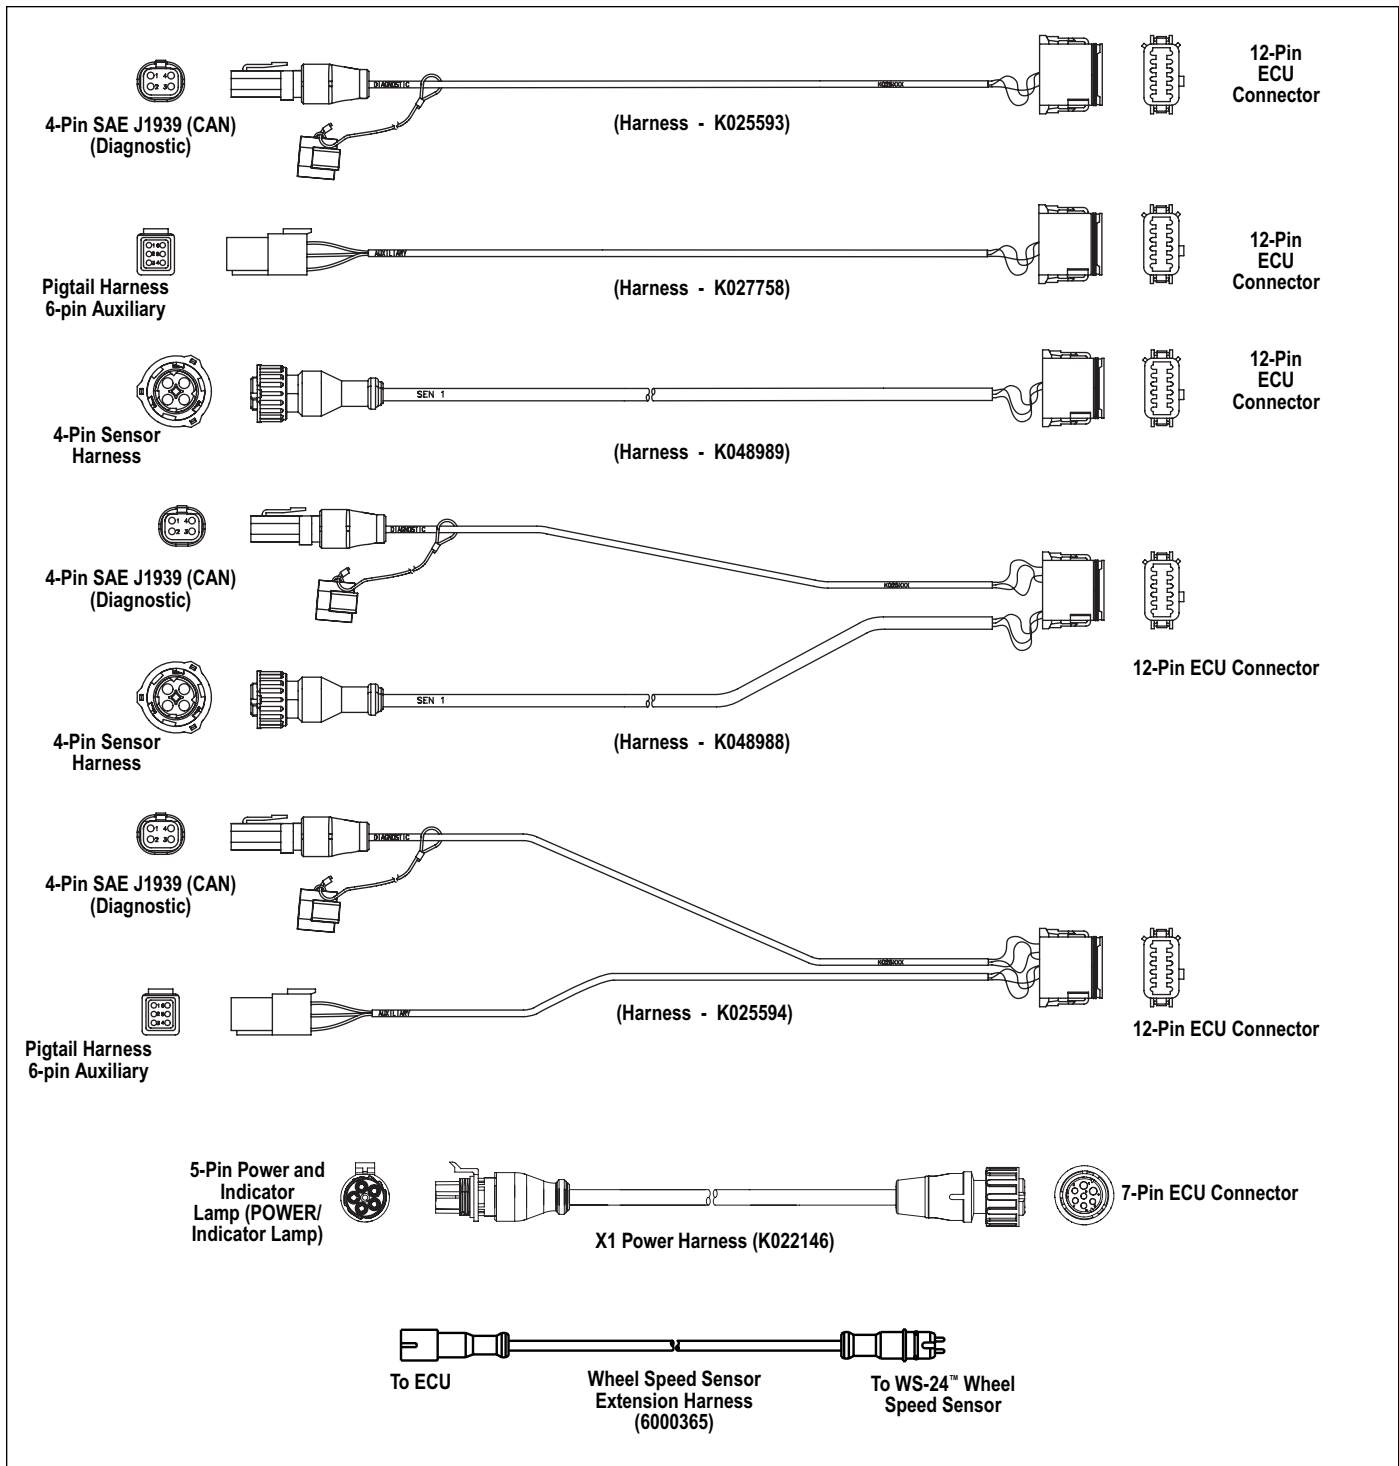

FIGURE 6 - EXAMPLES OF PIGTAIL WIRE HARNESSSES
- **Pigtail Wiring Harness:** A power pigtail harness is required. Auxiliary harnesses are available, as needed. See Figure 6.
deflection. The connection to the Electronic Control Unit (ECU) is via the auxiliary 12-pin connector. See *Figure 6*.
Several pigtail wire harnesses are available to connect the TABS-6 Adv MC module with other trailer system components. See *Figure 6*. Pigtail harnesses are weather-sealed at the connector interface and are clearly labeled for proper installation. Because of the over-molded design of the wiring harnesses, Bendix recommends that if damage or corrosion occurs, the complete harness be replaced.
See *Figure 6*.